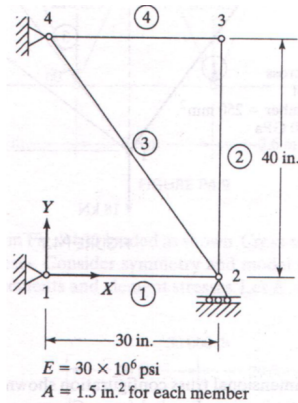

Figure 3
- (b) For the truss given in Figure 3, a horizontal load of $P = 4000$ lb is applied in the x-direction at node 2.